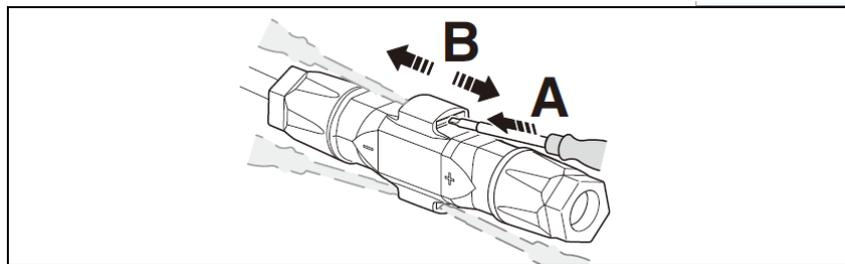

Figure 5-14
- 1). Insert the screwdriver into one of the four openings (Figure 5-14.A)
- 2). Leave the screwdriver in the opening. Pull the two connectors apart (Figure 5-14.B).